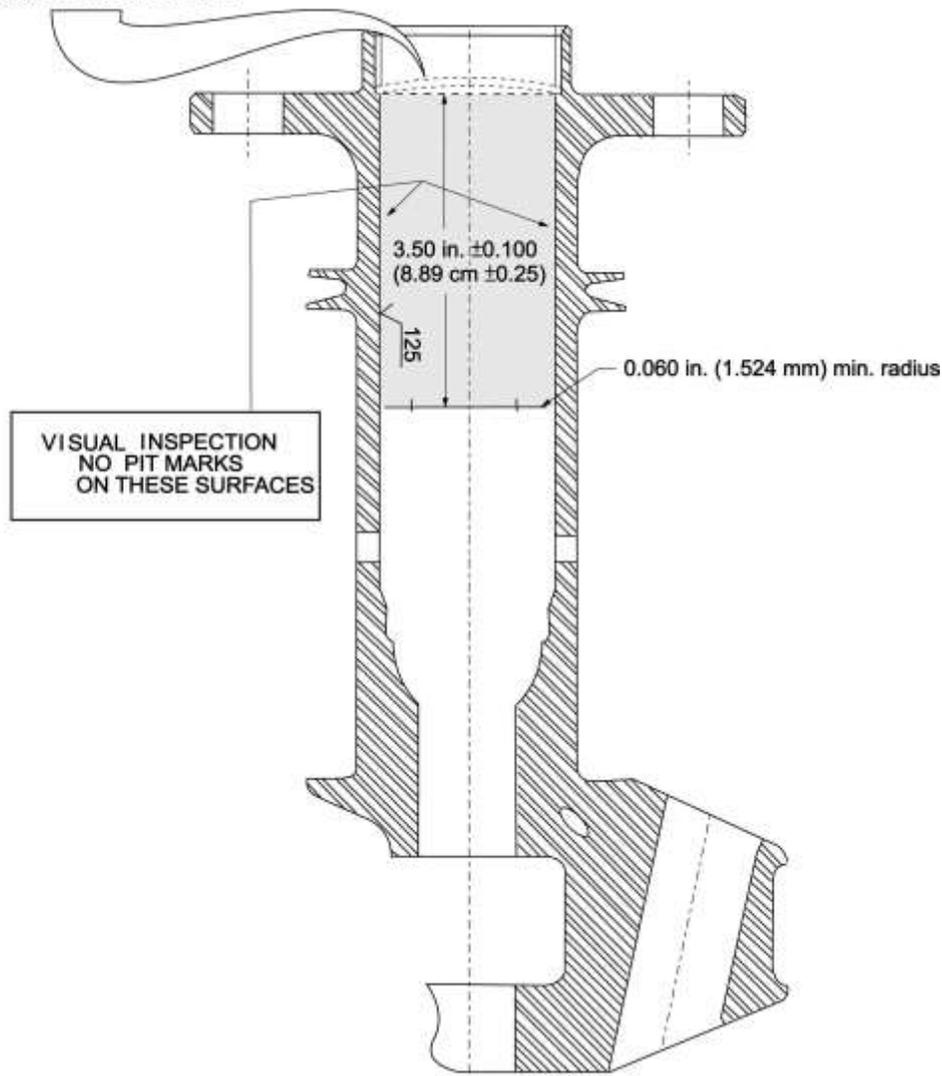

Figure 24
- C. Clean the hollow inner diameter bore of the crankshaft (Figure 24) with mineral spirits, MIL-PRF-680 or equivalent or Stoddard Solvent prior to inspection, the crankshaft inner diameter must be clean, dry, and free of debris.